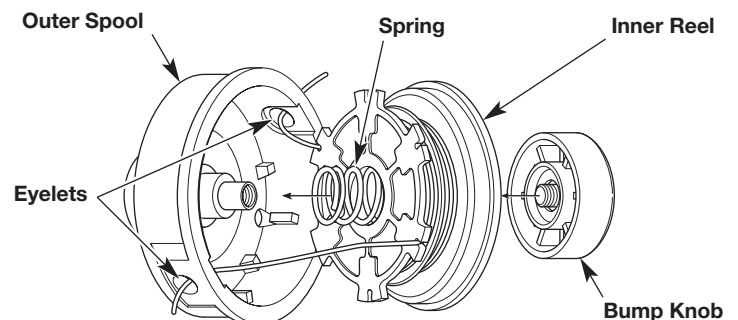

Fig. 16
1. Pass the two line ends through the eyelets in the outer spool. Place the spring inside the inner reel. Insert the inner reel into the outer spool. Push the inner reel and outer spool together (Fig. 16).